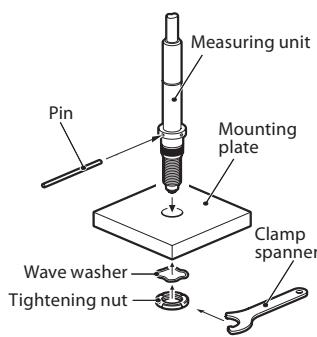

Fig. 3
- Be sure to use the supplied tightening nut, wave washer, clamp spanner and pin to mount the measuring unit (Fig. 3).